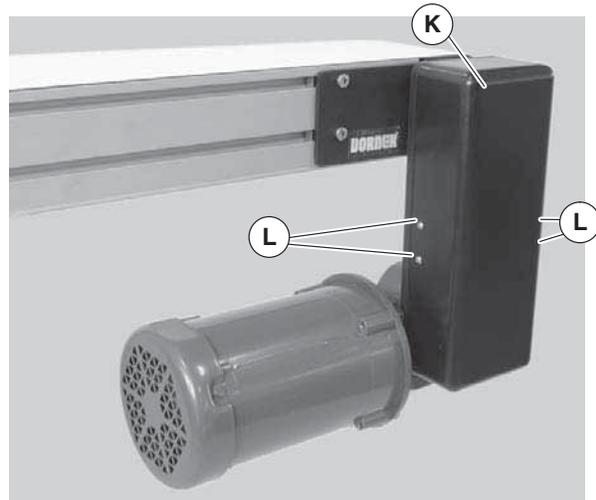

Figure 12
- Install cover (Figure 12, item K) with four (4) screws (L). Tighten screws to 35 in-lb (4 Nm).
1. Remove four (4) screws (Figure 12, item L) and remove cover (K).
4. Install cover (Figure 12, item K) with four (4) screws (L). Tighten screws to 35 in-lb (4 Nm).
6. Install cover (Figure 12, item K) with four (4) screws (L). Tighten screws to 35 in-lb (4 Nm).